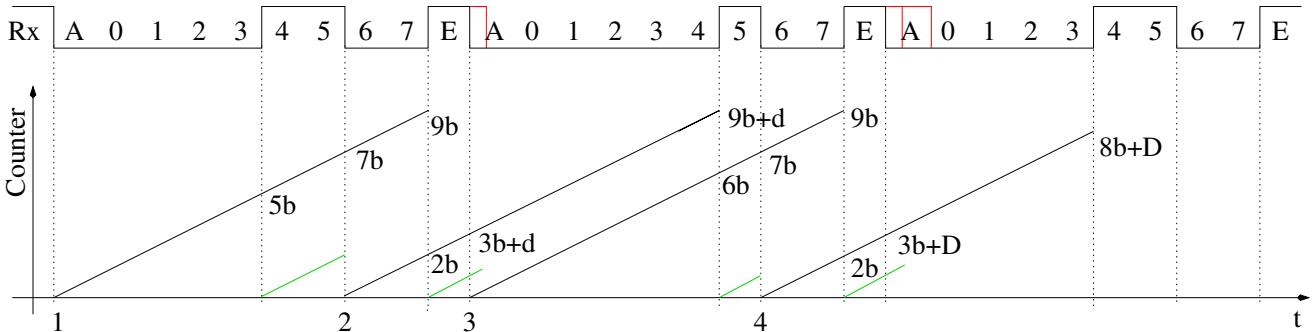

Figure 3.8. Possibel timer measurements for the STK\_GET\_SYNC sequence
If you specify a baud rate below 100Baud for generating the bootloader code, the program will be prepared to detect the baud rate from the first received character. At the begin if the transmission with the STK500 protocol the computer send a command STK\_GET\_SYNC (0x30) followed by the control character CRC\_EOP (0x20). For the serial transmission protocol the High level (1) is defined as the idle state. The begin of a transmission is started by s start bit with Low level (0). Directly after the end of the start bit the first data bit is send beginning with the low order bit. After the last of the aggred count of bits (8) is transmitted, the transmission is finished with one or more Stop bits at High level (1). The level of every bit is hold exactly the aggred baud time. The time between the end of the last Stop bit and the begin of the next Start bit is unspecified. The figure 3.8 shows the expected results for all possible time measurement. At the time axis "t" four possible start positions are marked for a complete time measurement of the assumed character. The counter is started in each case of a detected 1-0 slope. The right start position for the STK\_GET\_SYNC character is marked with "1". The marks "2", "3" and "4" show the situation for three possible wrong Start bit detections. For the mark "2" and "4" a 1-0 slope of data bits is detected as Start bit in a wrong way. For the mark '3' is a Start bit correctly detected, but for the wrong character (CRC\_EOP). The wrong detections are allways possible, if the bootloader is started not before the transmission was running. The expected counter values are marked at the counter level graph for all four start positions in figure 3.8. The "b" means the counter reading for one bit transmission time (baud time), the "d" stand for a possible time delay between the end of the Stop bit transfer and the start of a new Start bit. The "D" represents a expected long time delay to the begin of the next message. The transmit sequence of the message has reached it's end and the computer wait for an answer of the AVR. In the "Rx"-row the data bits are labled with "0" (least significant bit) to "7" (highest significant bit). The Start bit has the label 'A' and a Stop bit has the label 'E'. The first byte is the coding of the STK\_GET\_SYNC character and the second byte is the coding of the control character CRC\_EOP.